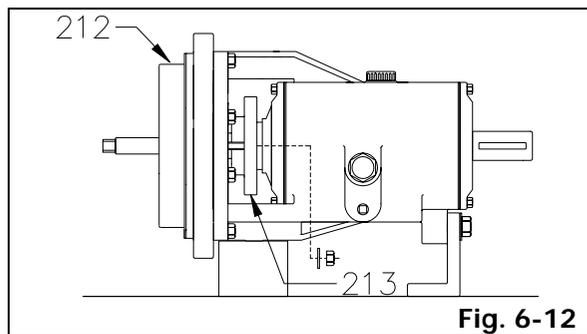

Fig. 6-12
- Remove two (2) gland nuts.
- Remove gland (213) from stuffing box cover (212) (Fig. 6-12).